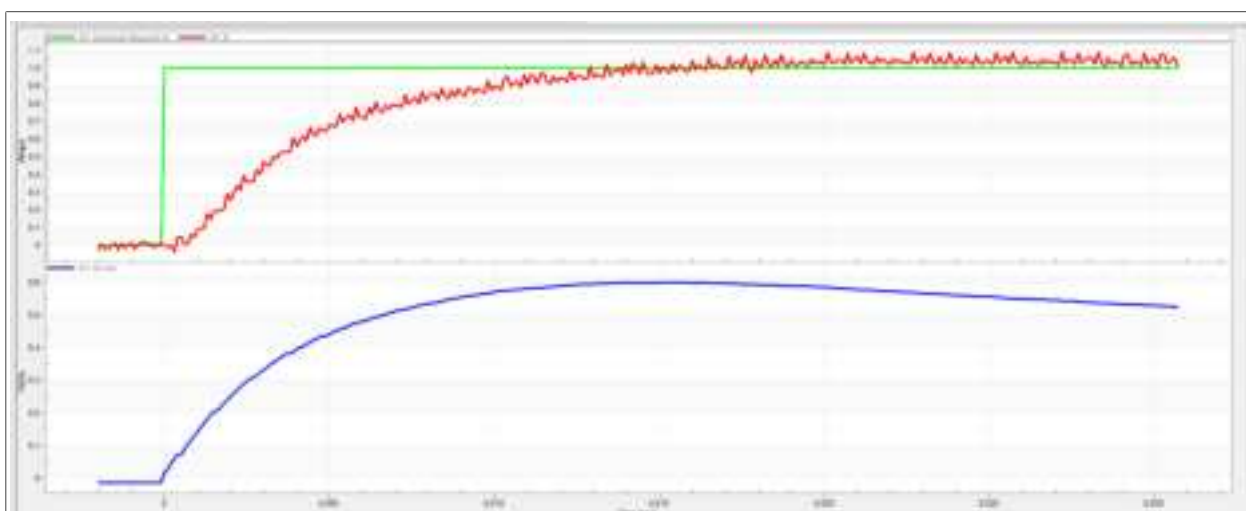

Figure 28. Slow step response of the Id current controller
- The loop bandwidth is low (100 Hz) and the settling time of the Id current is long (Figure 28).